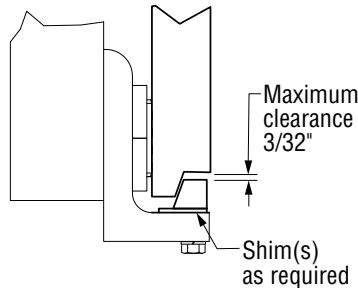

Figure 4-3, Lower Hook Clearance
8. Install the bolt-on lower hooks. Inspect clearance to the carriage on lower hooks. Adjust the lower hooks for a maximum clearance of $\frac{3}{32}$ " (see Figure 4-3). Tighten the bolts to 40-50 ft-lbs.